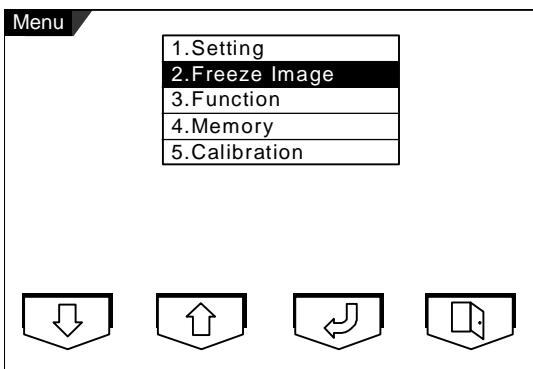

Figure 4
- 2) Select '2.Freeze Image' with and press . (Figure 4)